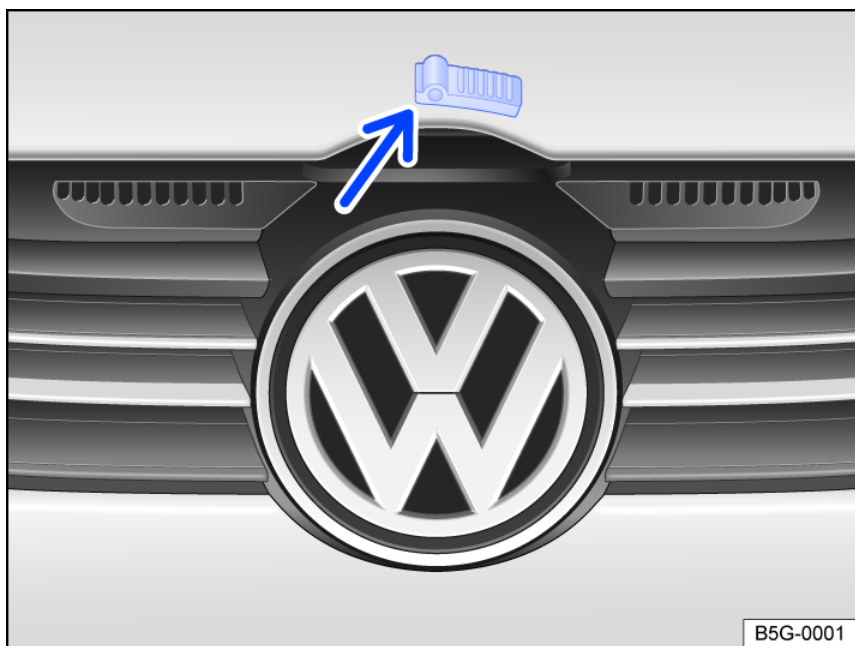
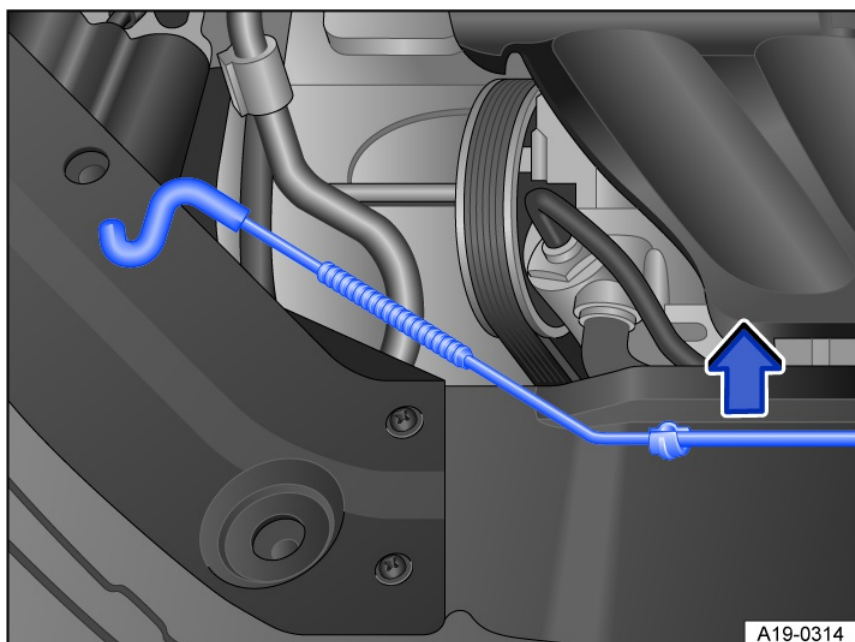
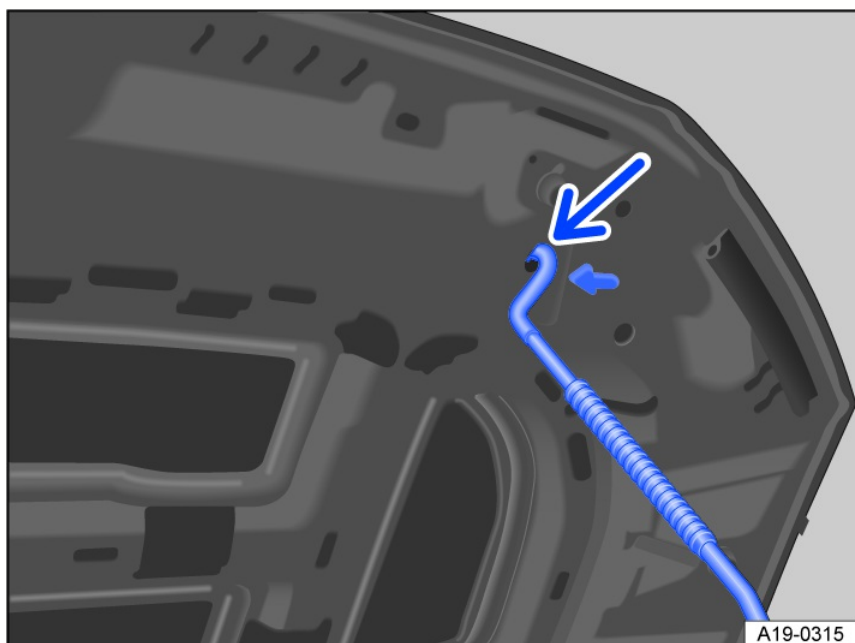

Fig. 149 Above the radiator grille: Opening lever for the hood (general example).
Fig. 150 In the engine compartment: Hood support in the bracket.
Fig. 151 On the engine hood: Hood support bracket.
- Lift the engine hood slightly while at the same time pushing the opening lever in the direction of the arrow fig. 149 to open the engine hood fully.
- Lift the hood support out of the bracket fig. 150 in the direction of the arrow and hook it into the opening fig. 151.
- Unhook the hood support from the opening fig. 150 and clip it back into the bracket fig. 149.